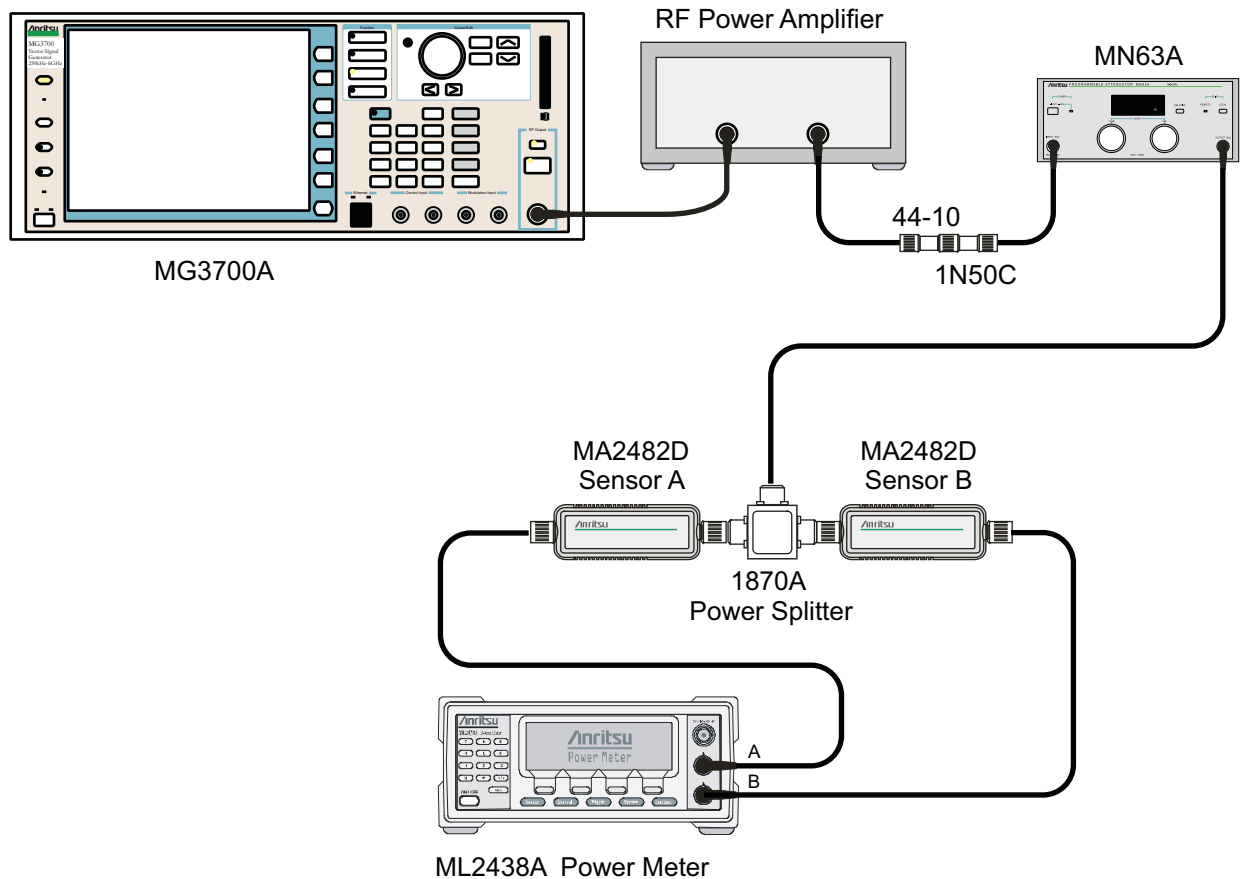

Figure 4-4. ISDB-T SFN Level Accuracy and 1 dB Compression Level Pre-test Setup
3. Connect the MG3700A Signal Generator, Power Amplifier with N(f)-BNC(m) adapters, RF Limiter, MN63A Programmable Attenuator, Power Divider, Power Meter, and Power Sensors as shown in Figure 4-4.
50. Turn Off the power amplifier, disconnect the power splitter from the MS271xE, and re-connect Sensor A to the power splitter as shown in Figure 4-4 on page 4-21.
4. Connect the MG3700A Signal Generator, Power Amplifier with N(f)-BNC(m) adapters, RF Limiter, MN63A Programmable Attenuator, Power Divider, Power Meter, and Power Sensors as shown in Figure 4-4 on page 4-21.